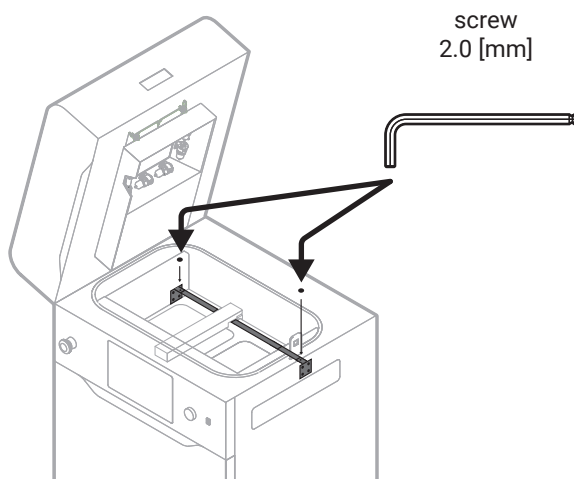

Fig. 17 Screwing on Recoater strip.
9. Using a 2 mm allen key and two Mx6 screws, pre-screw the Recoater strip onto the angles (fig. 17).